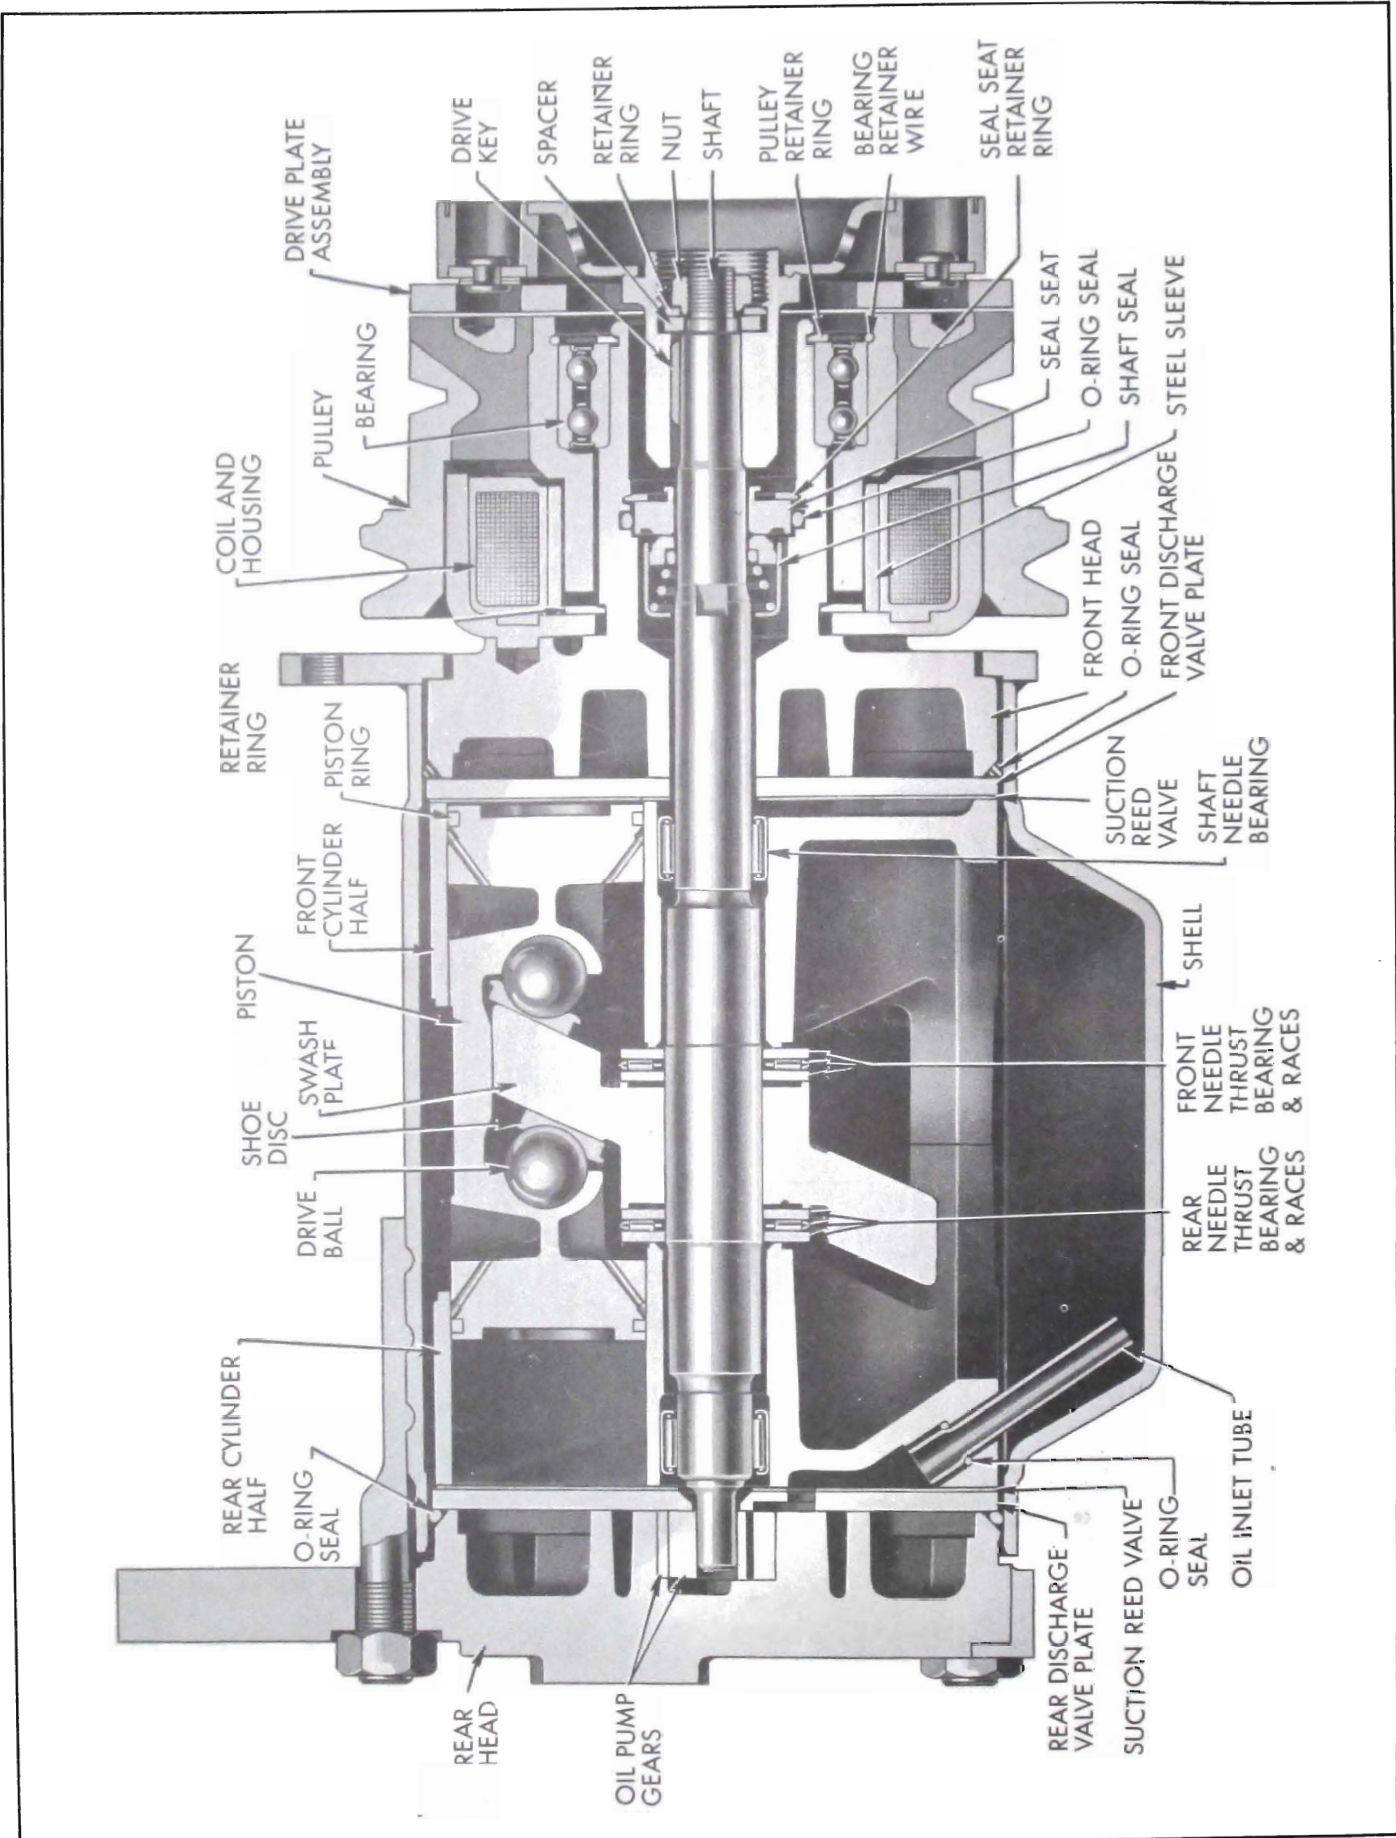

Figure 11-32—Sectional View of Compressor
horizontal double acting pistons make up a six-cylinder compressor, and are mounted axially around the compressor shaft to operate in a front and rear cylinder assembly. These pistons operate in a 1-1/2" bore, have a 1-1/8" stroke and are actuated by a swash plate pressed on the compressor crankshaft. See Figure 11-32.
The pulley assembly consists of three parts: (1) pulley rim, (2) power element ring, and (3) pulley hub. These three parts form a final assembly by molding a frictional material between the hub and the rim. A power element rim is embedded in the forward face of the assembly, between the outer rim and the inner hub. See Figure 11-32.